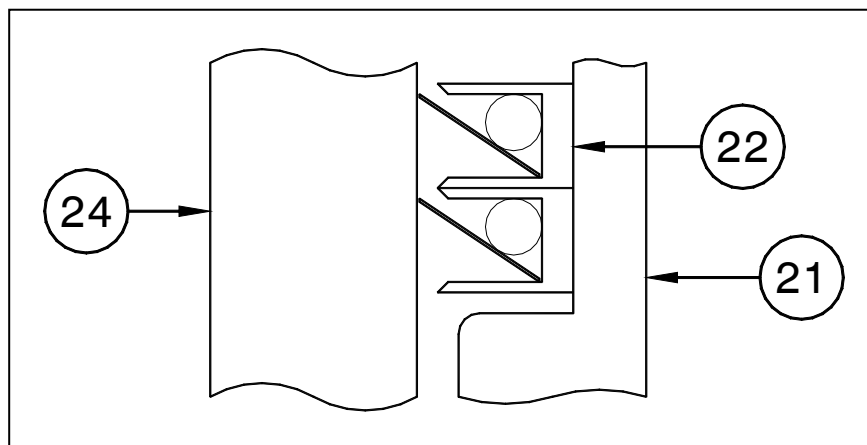

Figure 4.7d
- .1 Mount the inner pinion bearing race (25) on the pinion shaft (24) and install the retaining ring (27). Install the outer race (26) into the main drive housing.
- .2 Install the oil seals (22) inside the worm housing (21), referring to Figure 4.7d. The oil seals must be installed as shown with the lips facing upwards.
- .3 Pull the pinion (24) up through the worm housing (21) with an eye bolt and cable and support the pinion from below with blocking. First cover the keyway with tape to prevent it from cutting the seals.